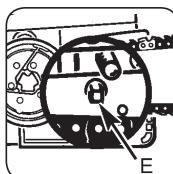

Fig. 3J
9. Inspect to ensure that tang (E) is in the adjustment hole on the bar (Fig. 3J).